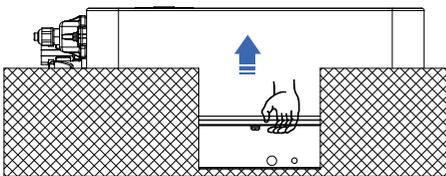
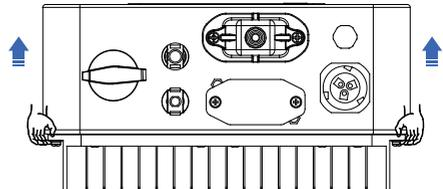

Figure 3-6 Moving the inverter
Figure 3-7 Moving the inverter
1. Open the packaging, insert hands into the slots on both sides of the inverter and hold the handles, as shown in Figure 3-6 and Figure 3-7.